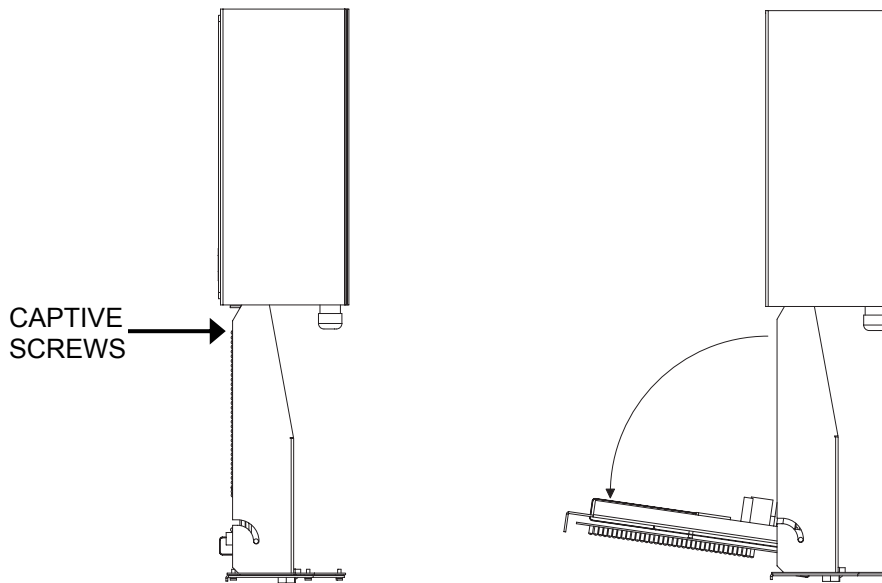

Fig. 8: Side View
1. Remove the two (2) captive screws holding the Electronics Plate to the Electronics Carriage.
2. Slowly, allow the Electronics Plate to swing down, making access easier for wiring and service (As seen in Fig. 8).